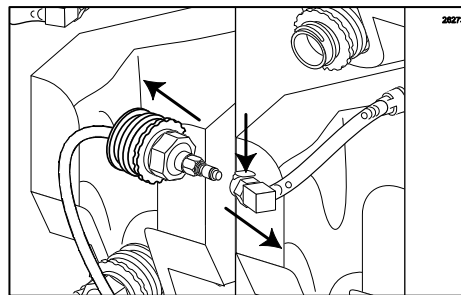

Figure 68
20. Once the Pump Flush process has completed, disconnect the Pump Flush Adapter from the Syrup Bag Connector. (See Figure 68.)